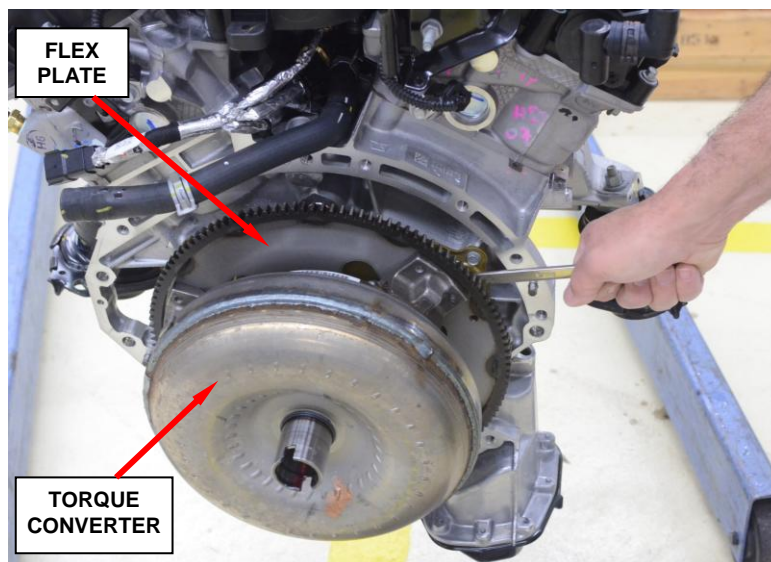

Figure 7 – Seized Engine Torque Converter Removal
87. **For seized engines**, remove the torque converter bolts and remove the torque converter from the flex plate (Figure 7).